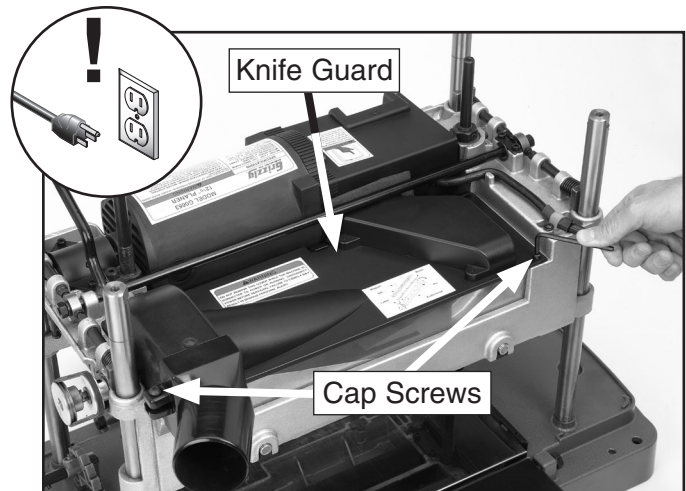

Figure 29. Removing knife guard (top and side covers removed for clarity).
2. Remove the cap screws from the knife guard, then remove the guard (**Figure 29**).